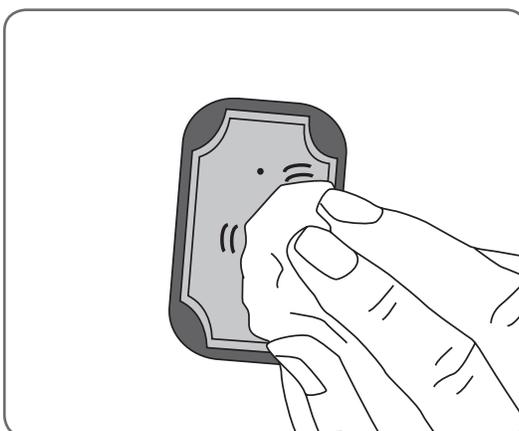

Figure 6-22: Blotting the cloth electrodes.
3. Blot excess water from the cloth electrodes. See Figure 6-22.